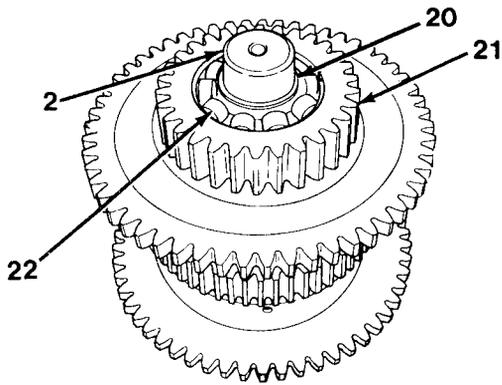
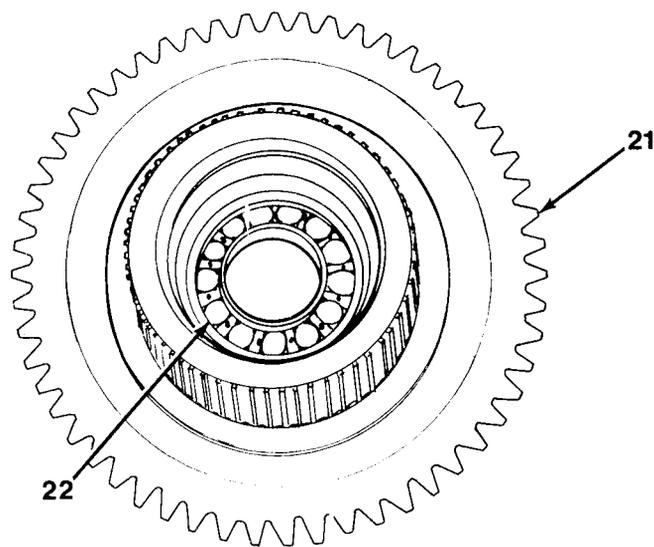

Figure 11-7
Figure 11-8
16. Remove snap ring (20) from clutch shaft assembly (2, Figure 11-7).
17. Remove gear and hub welded assembly (21) with one bearing (22) as an assembly from clutch shaft assembly (2) by using a puller.
18. Drive bearing (22) out of gear and hub welded assembly (21, Figure 11-8).
20. Remove bearing (22) from clutch shaft assembly (2, Figure 11-7).